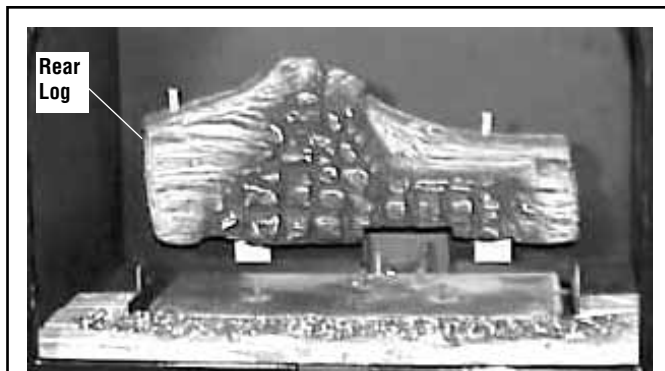

Figure 18
2. Place the largest log onto the rear log stoppers (see **Figure 17**). Ensure that the grooves on the bottom of the log aligns onto the corresponding places on the rear log stoppers. Push the log back so that it is against the back of the rear log stoppers (see **Figure 18**).